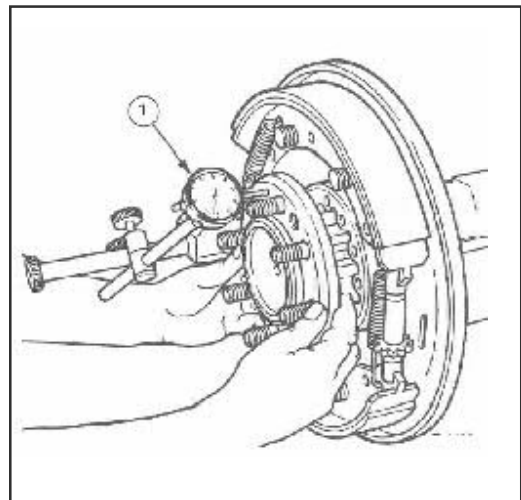

Fig. 3
6. Check the axle shaft end float on the left hand axle housing, using a dial test indicator gauge. (Item 1 in Fig 3). Remove shims as necessary to give an end float of 0.002 to 0.008 inch (0.050 - 0.2 mm) between the Axle ends.